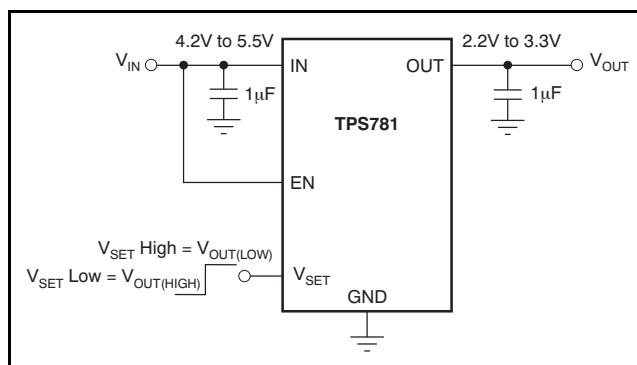
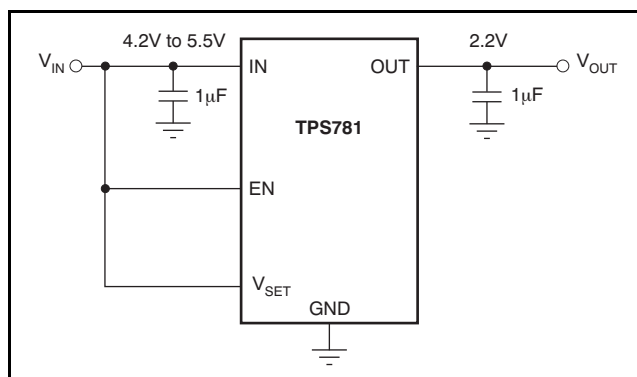

Figure 52. Circuit Showing EN Tied High when Shutdown Capability is Not Required
Figure 53. Circuit to Tie Both EN and V_{SET} High
The enable pin (EN) is active high and is compatible with standard and low-voltage CMOS levels. When shutdown capability is not required, EN should be connected to the IN pin, as shown in Figure 52. Figure 53 shows both EN and V_{SET} connected to IN. The TPS781 series, with internal active output pull-down circuitry, discharges the output to within 5% V_{OUT} with a time (t) shown in Equation 3: